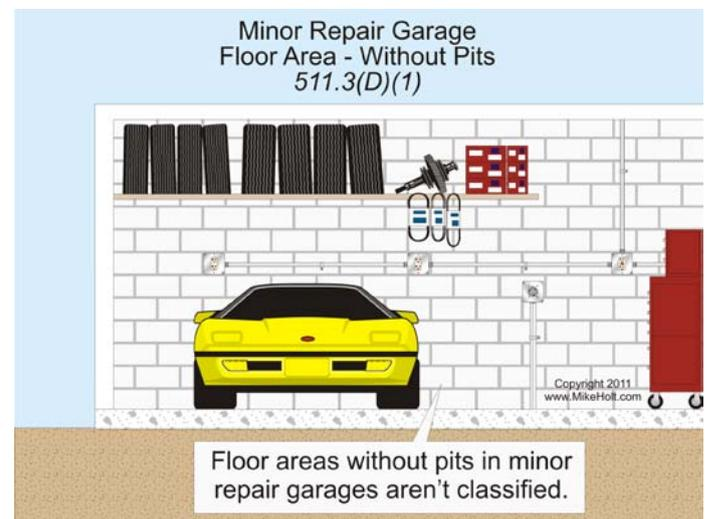

Figure 511-4
(1) Floor Areas. Floor areas are unclassified, except pit areas are classified according to (a) or (b). **Figure 511-4**